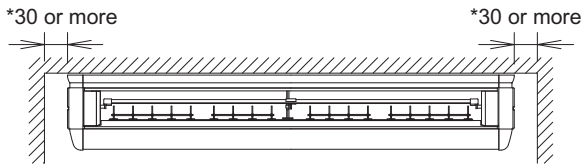

Fig. 1
- (1) Select the installation location that meets the following conditions and get approval of the customer.
- Where a space sufficient for installation and service can be ensured. (Refer to Fig. 1 and Fig. 2)